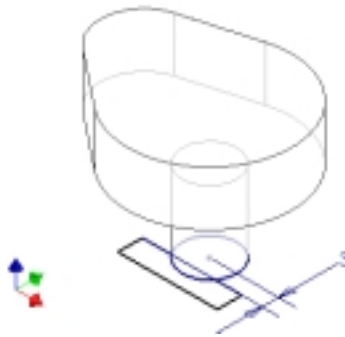

Figure 3-12
6. With reference to Figure 3-12, construct a sketch.